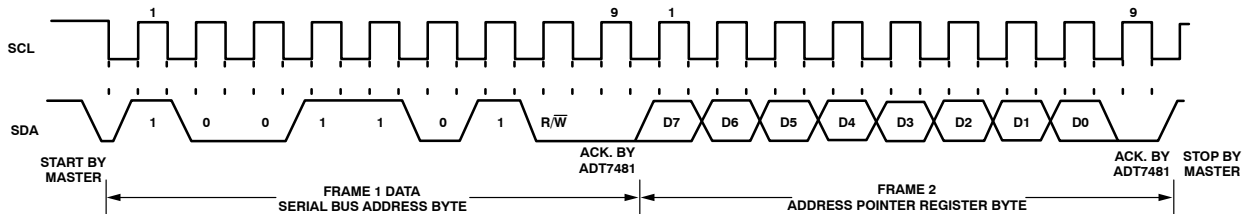

Figure 16. Writing to the Address Pointer Register Only
- If the address pointer register value of the ADT7481 is unknown or not the desired value, it is necessary to set it to the correct value before data can be read from the desired data register. This is done by performing a write to the ADT7481 as before, but only the data byte containing the register read address is sent, as data is not to be written to the register. This is shown in Figure 16.
- If the address pointer register is already at the desired address, data can be read from the corresponding data register without first writing to the address pointer register, and the bus transaction shown in Figure 16 can be omitted.